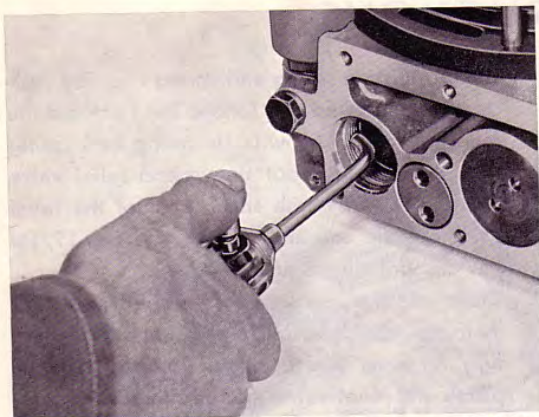

Fig. 20. Cleaning the control orifice
4. Before fitting the relief valve components, blow the control orifice clean with a high-pressure air line, see Fig. 20.
The control orifice is accessible after the dashpot sleeve of the relief valve has been removed as above. Clean the orifice with a high pressure air line, see Fig. 20.